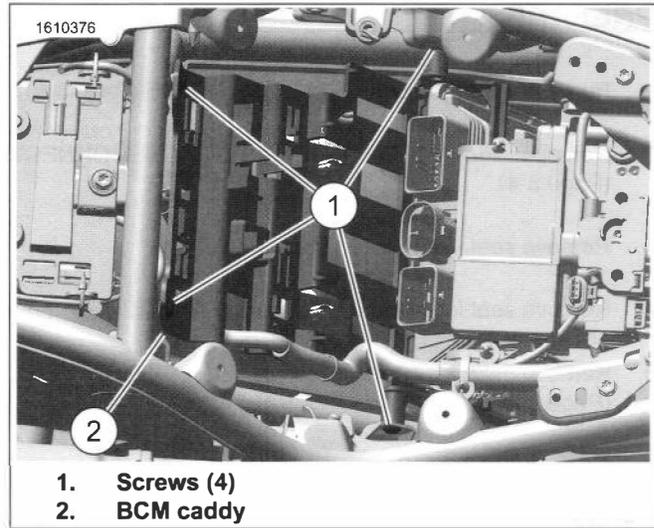

Figure 8-82. BCM Caddy
1. See Figure 8-82. Remove screws (1).
2. Remove BCM caddy (2).
2. See Figure 8-82. Position BCM caddy, install screws. Tighten.